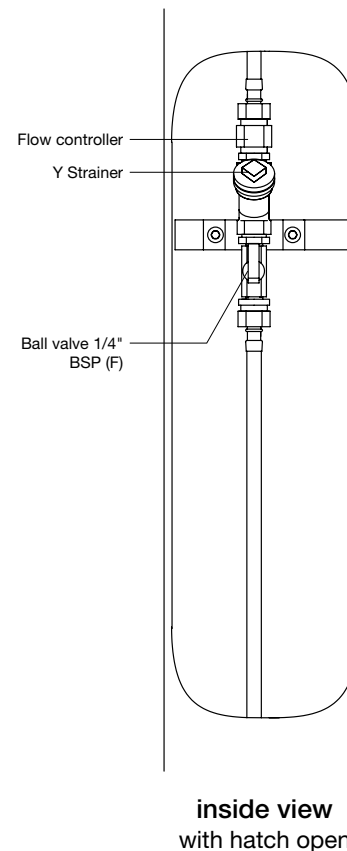

Fig. 1
1. Remove the hatch plate of the Arqua Pole DF7. (Fig 1)